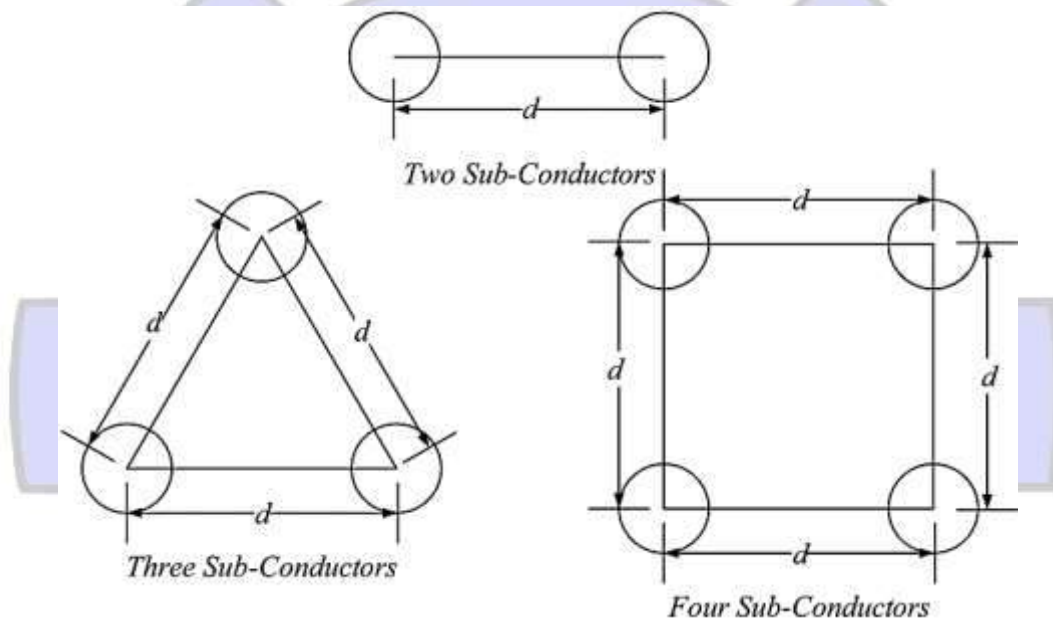

Fig. 20:
- Figure 20 below shows common EHV bundles consisting of two, three, or four conductors.